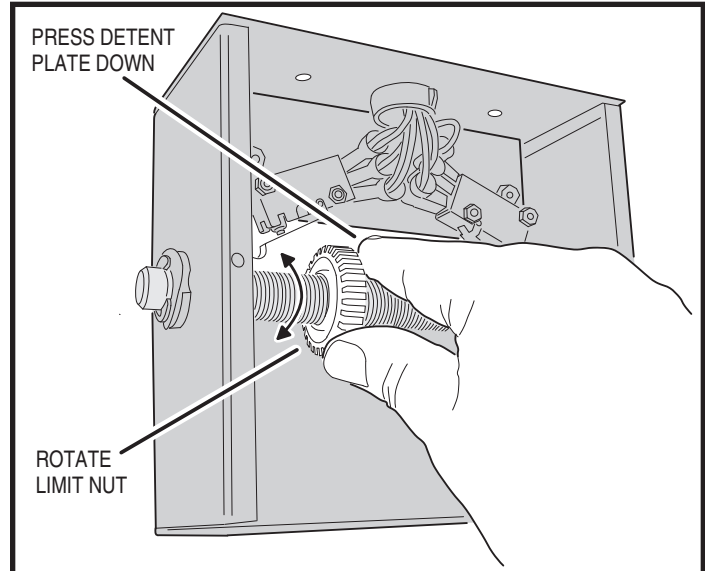

Figure 9. Setting the Limits
2. Once the gate is in this position, adjust the **OPEN** limit nut until it activates the limit switch for open. Press down the detent plate and rotate the nut along the threaded shaft (see Figure 9).
3. After setting the open limit, move the gate to one foot from fully closed and repeat the process for the **CLOSE** limit nut (see Figure 9).